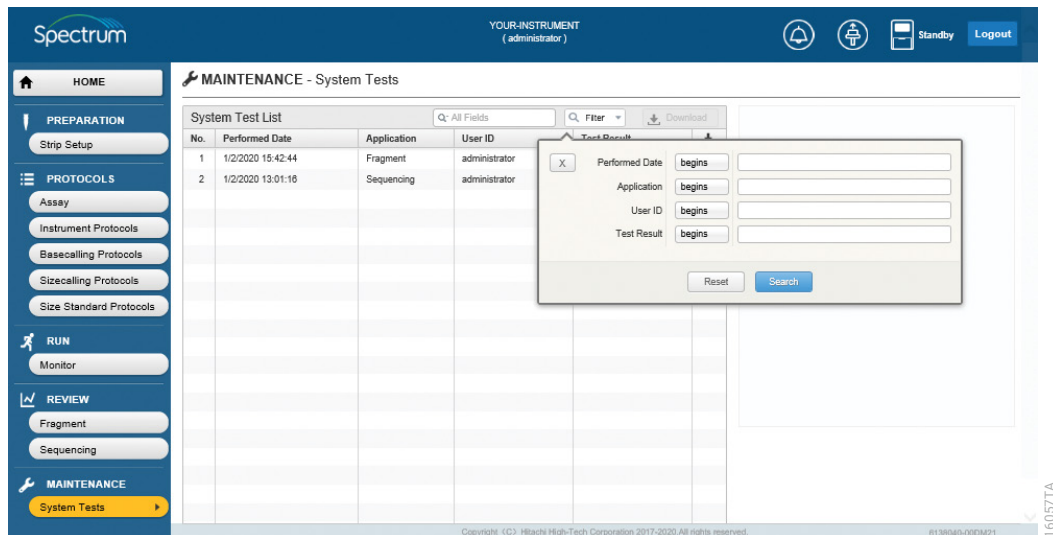

Figure 109. System Test List select search field radio button window.
3. After selecting the appropriate search field, select the magnifying glass or down arrow icon in the Filter box to display filtering options by the different fields (Figure 109).